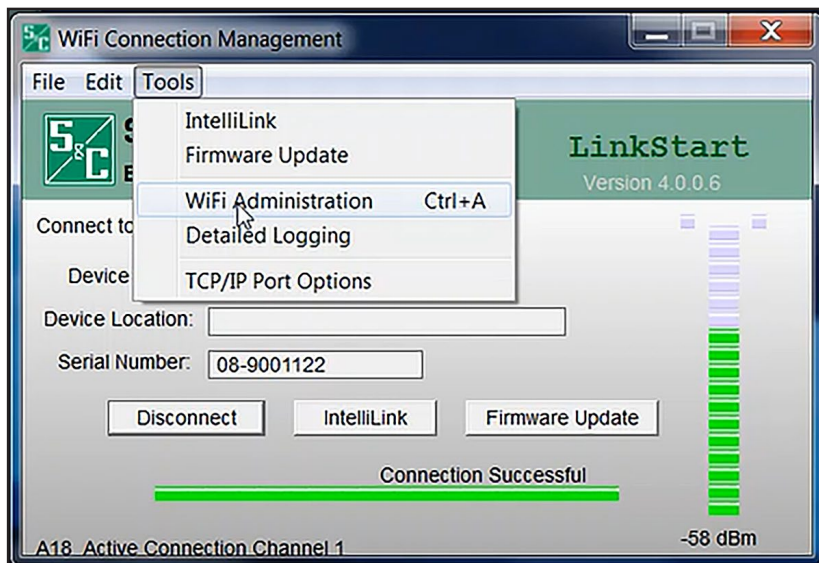

Figure 8. The “Wi-Fi Administration” item on the Tools menu.
STEP 5. Open the **Tools** menu and click on the **Wi-Fi Administration** option. See Figure 8.